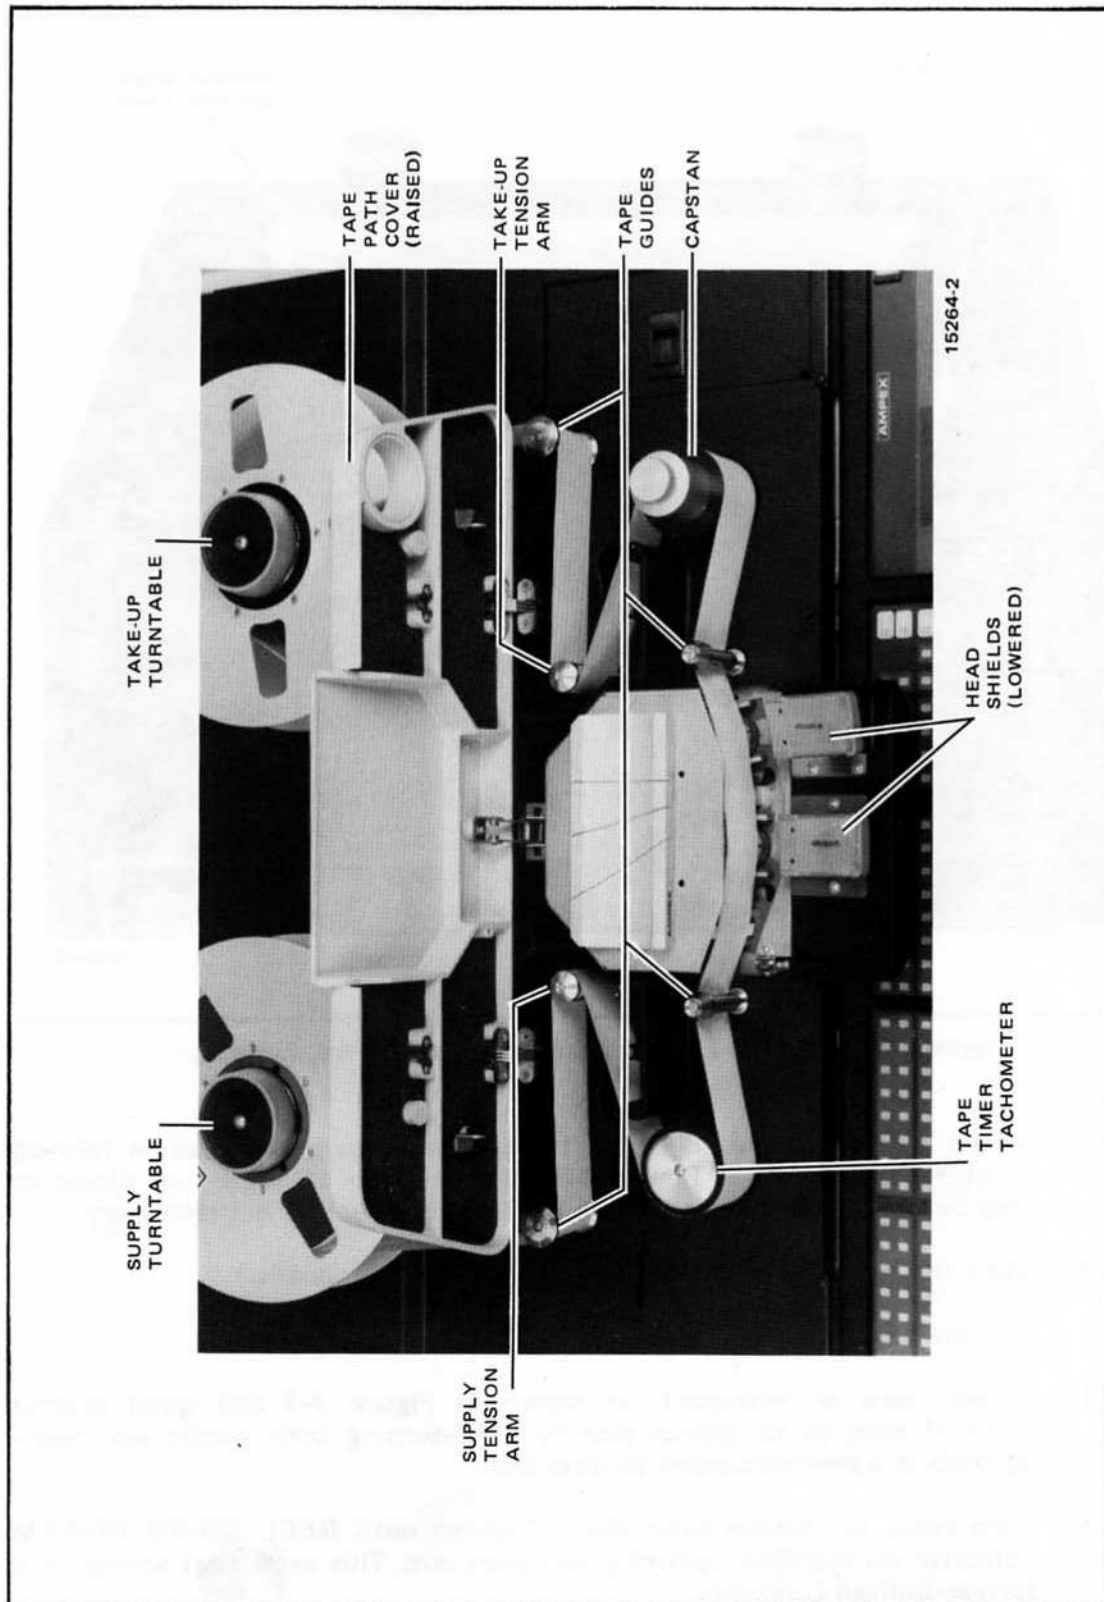

Figure 3-3. Tape Threading Path
See Figure 3-3 and perform the following preoperational procedure.
- STEP 4 Install a reel of tape on supply turntable and an empty reel on take-up turntable as shown in Figure 3-3. Reels up to 16 inches in diameter may be used. Reel size switching for different reels is not necessary.
- STEP 7 Thread tape on transport, as shown in Figure 3-3 and spool several turns of tape on to takeup side by hand-turning both supply and take-up reels in a counterclockwise direction.